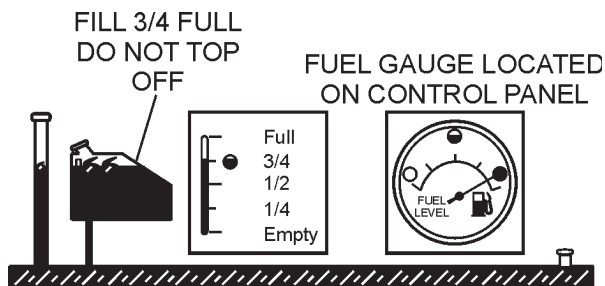

Figure 7. Full Fuel System
5. Figure 7 below reflects a full fuel system.